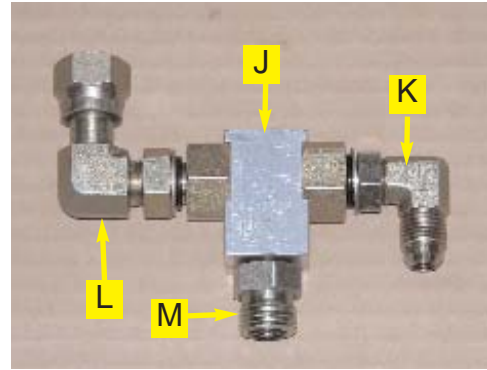

Figure 4a. Load sense shuttle.
- a. Pre-assemble the load sense shuttle (**J**) with adapter fittings **K**, **L** and **M** as shown. (Figure 4a.)